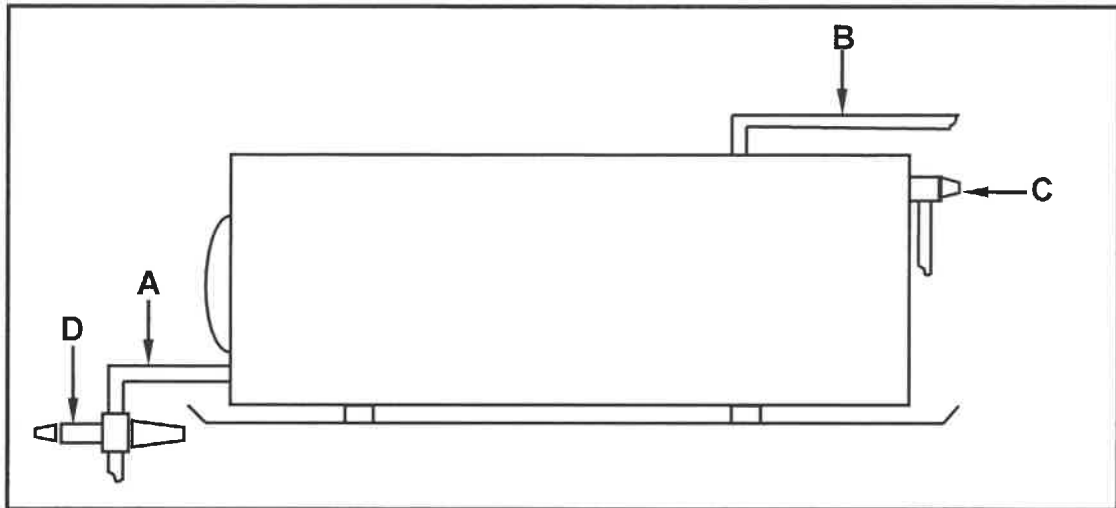

FIGURE 4.6
4.6 FIGURE 4.6 below shows an electrical water-heating system.